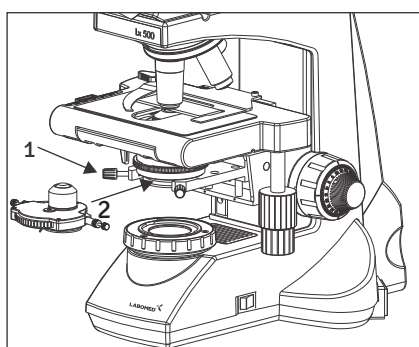

Fig. 6
1. Remove the condenser from its position by loosening the two thumb screw (1) on both side of the condenser as shown in figure 6.